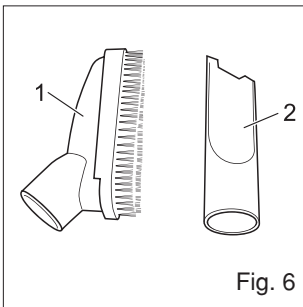

Fig. 6
- Combi Brush (Fig. 6/1): Use this to remove the dust from objects with delicate surfaces (e.g. cupboards and tables)
- Crevice Nozzle (Fig. 6/2): Use this to suck dust out of hard to reach places.